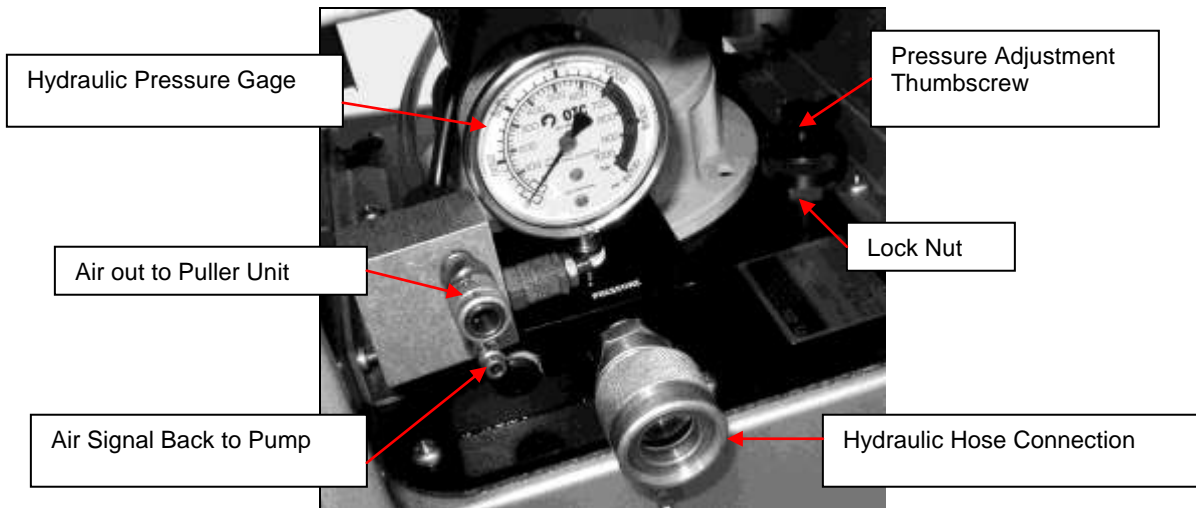

Figure 3.4-1
2. If the pressure does not reach 10,000 psi (68.95 MPa), adjust the PowerPak pressure relief valve (see Figure 3.4-1):